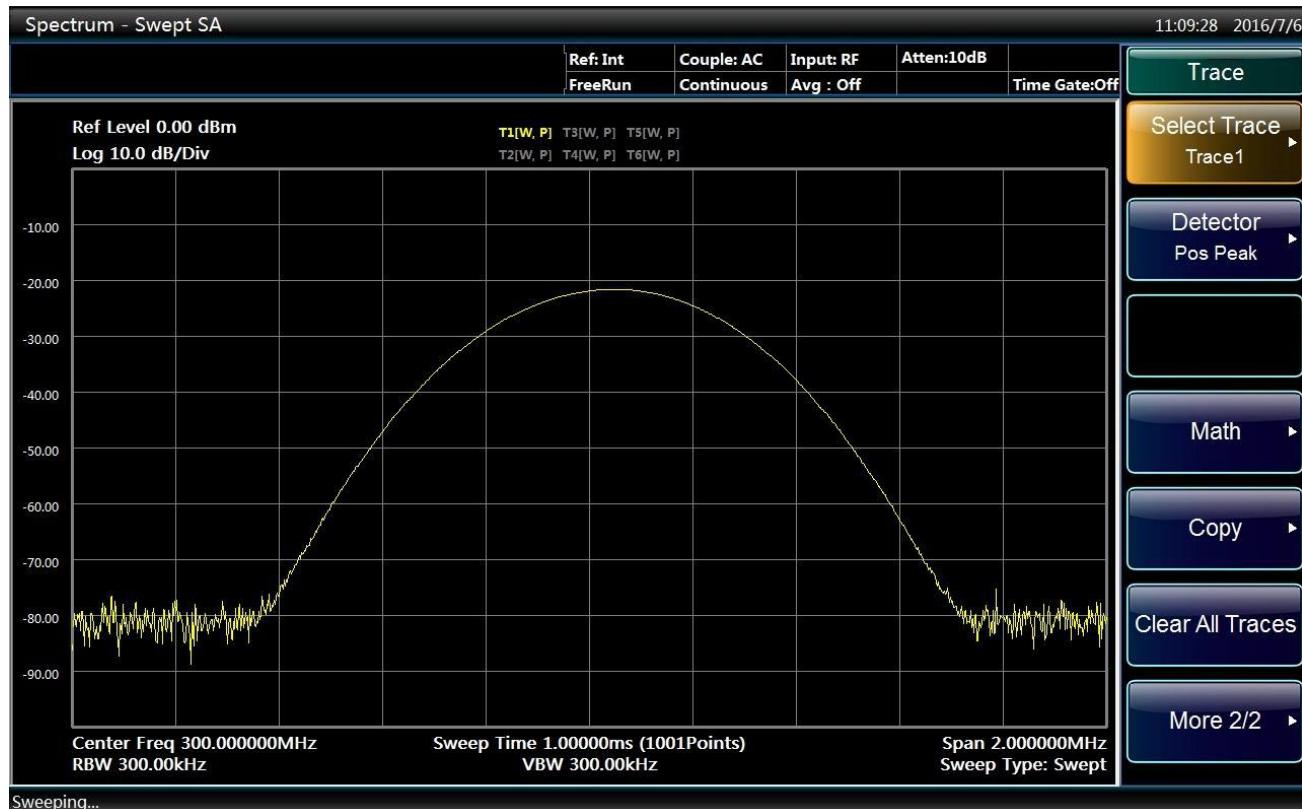

Fig. 4.8 Spectrogram when resolution bandwidth (300 kHz) is larger than signal frequency bandwidth
- Press 【Trace】 , [More 1/2▶], [Detector▶] and [Peak] to switch the detector mode to positive peak. Then you can see there is only one signal peak on the screen of the analyzer as shown in Fig. 4.8.